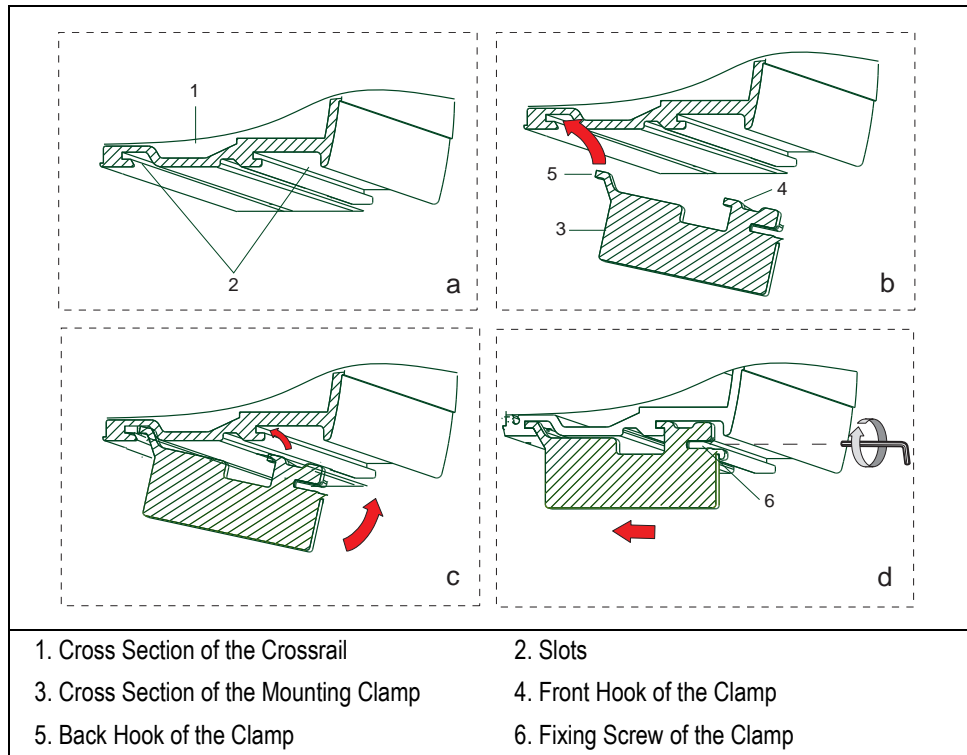

Figure 4-24. Hooking Sequence of the Clamp (1)
Referring to Figure 4-24 proceed as follows:
3. Uplift the crossrail X and place it on the top of the two supports tilting it slightly downwards in a way that the back hook of the clamp, located on the top of the support leg, slips into the proper slot. See **b** of Figure 4-24.
5. Slightly push the crossrail backwards so that the hooks of the clamps perfectly anchor thereto. See **c** and **d** of Figure 4-24.